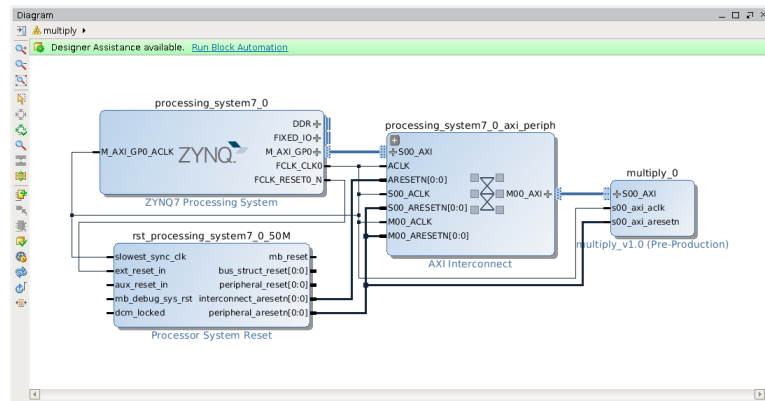

Figure 6: Layout of the Design
7. Now, select the Vivado window which has the PS system. Open the diagram tab and add 'multiply' IP to the PS system. Select 'Run Connection Automation' and in the prompted window select 'All Automation' and click 'OK'. Once automation is completed, a layout is generated. Right click on the diagram and select 'Regenerate Layout' to re draw the layout design. The layout is shown in Figure6. A 'Processor System Reset' block is also created which synchronizes the peripheral and interconnect reset to clock.